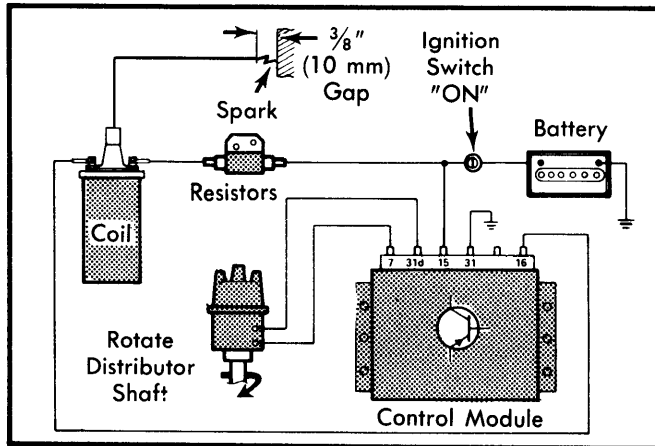

Fig. 3 Coil Wire Hookup For Making an Ignition System Spark Test on All Models Except Mercedes-Benz
1) If starter turns, but engine will not start or it fails to develop sufficient power, hold distributor end of coil wire about $\frac{3}{8}$ " (10 mm) from engine block and crank engine. See Fig. 3.